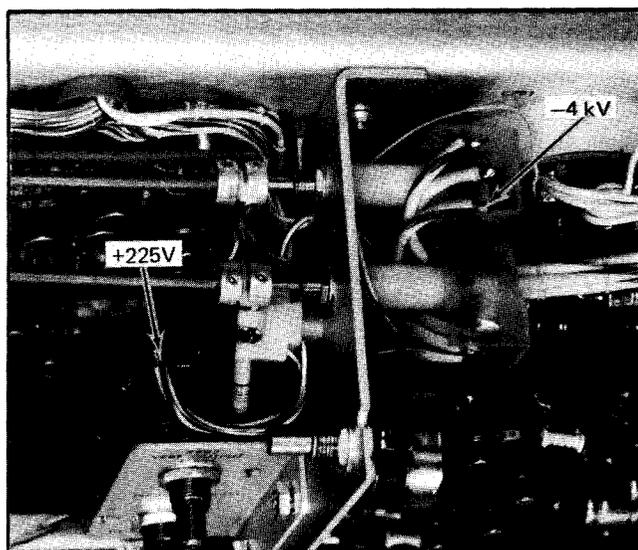

Fig. 5-3. Location of high voltage test points on right side of instrument.
- f. Connect the positive lead of the meter to the arm of the INTENSITY control, R883 (see Fig. 5-3), connected to the white and purple wire.